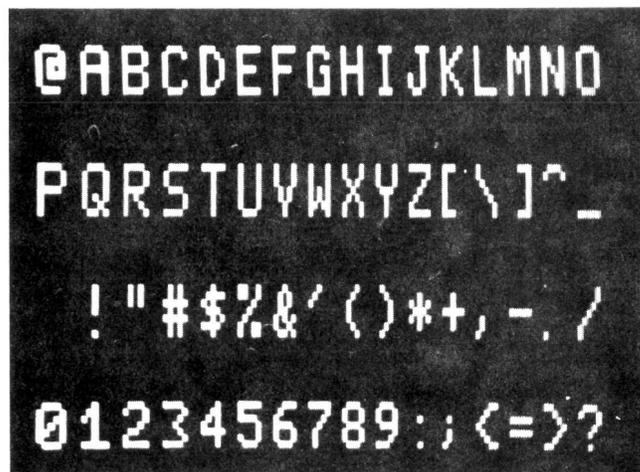

Figure 4, Display Repertoire
2.05 Figure 4 shows the complete repertoire of ASCII print characters which can be displayed.